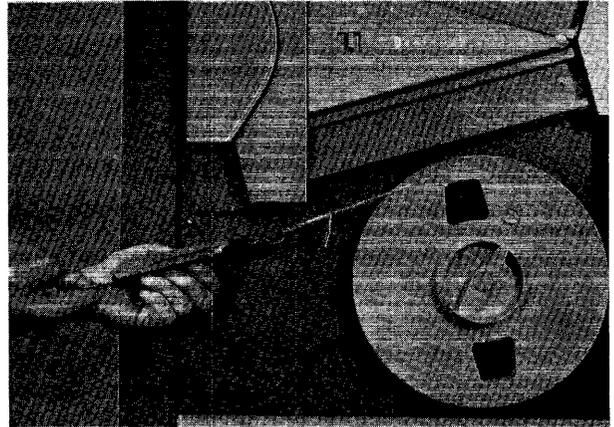

Figure 6-34
29. Checking Reel Motor Torque. With the Maintenance Unit connected as above, it is possible to check the reel motor torque output. Use a piece of suitable strong cord to form a loop of twine around the reel at the outer extremity (Fig. 6-34). Attach a suitable spring scale, energize the motor in the proper direction, and allow the scale to move very slowly in the direction the motor is trying to run. Read the scale and multiply by the radius of the string attachment point. This will give the torque which should be approximately 170 inch ounces. If this torque output is not realized, check the reel motor SCR circuits and the line voltage which should be 117v rms for this test. If all circuit operations are correct and the motor is still low in torque, it should be replaced.